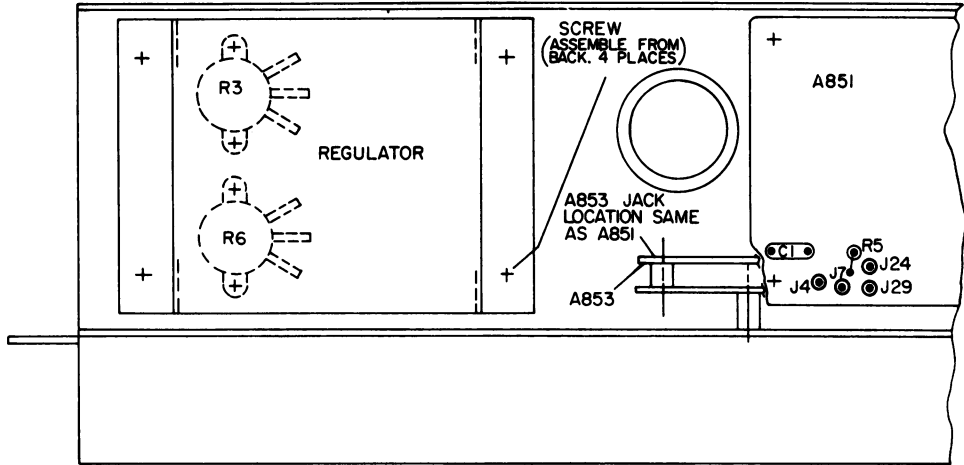

Figure 1 - Installation Diagram
1. Install the High Voltage Regulator as shown in Figure 1 with the hardware supplied with the kit.